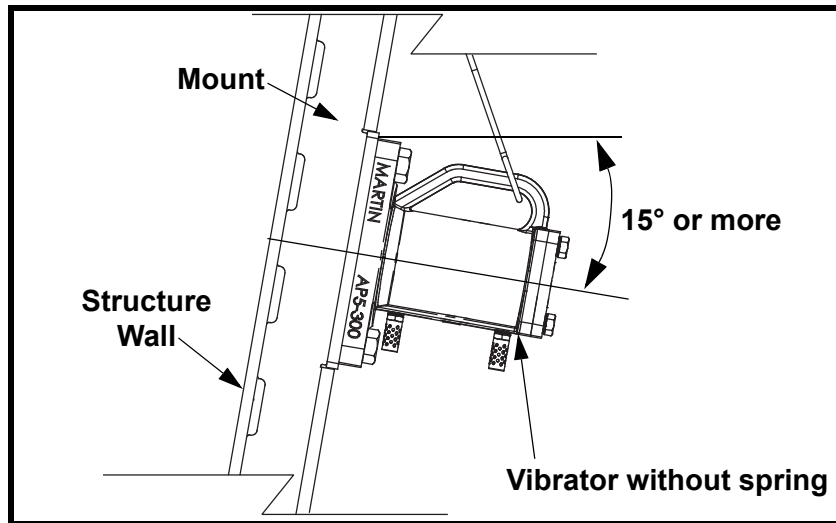

Figure 4. Mounting Vibrator without Spring
AP5 Series vibrator without spring must be mounted with a minimum slope of 15° below horizontal. (See Figure 4.)
1. If using vibrator without spring, ensure mounting location has a minimum slope of 15° below horizontal. (See Figure 4.)